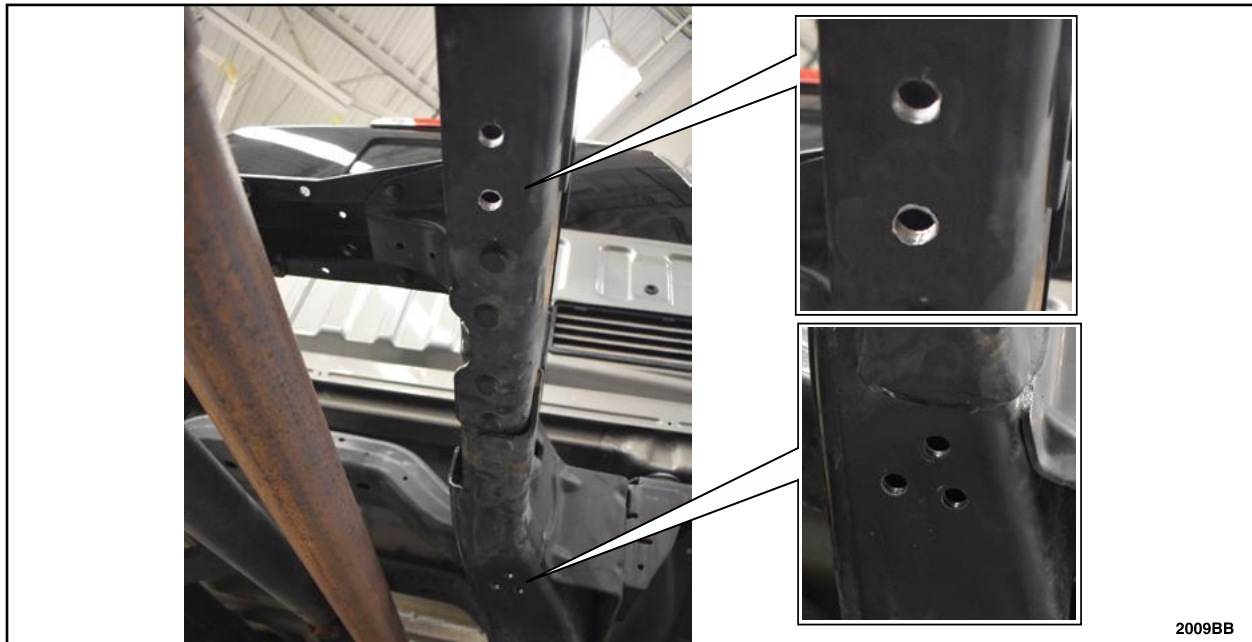

FIGURE 24
- Using a drill (set to the bits recommended drill speed) and a 15mm Rotabroach bit, such as the Hougén or Blair 15mm High Speed Steel Annular Cutter and a Rotabroach Arbor, drill the five (5) holes for Non-60CA and the four (4) holes for the 60CA that were just center punched in the previous Step. See Figure 24.